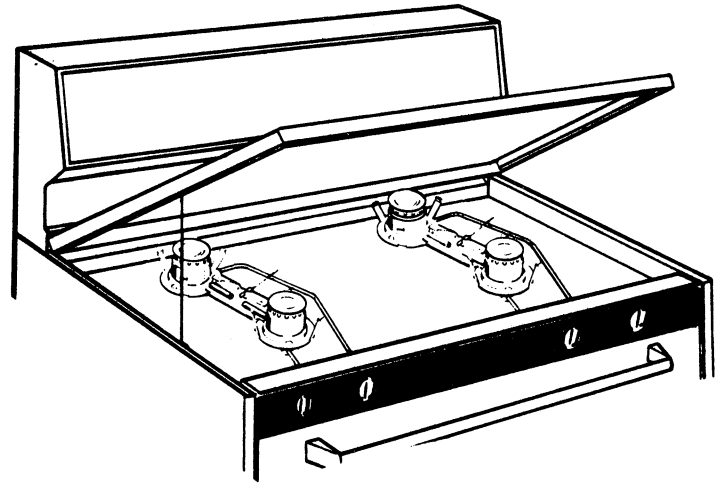

Figure E3
4. Remove the brackets that hold the top at the rear by removing one screw from each bracket. (See Figure E3)